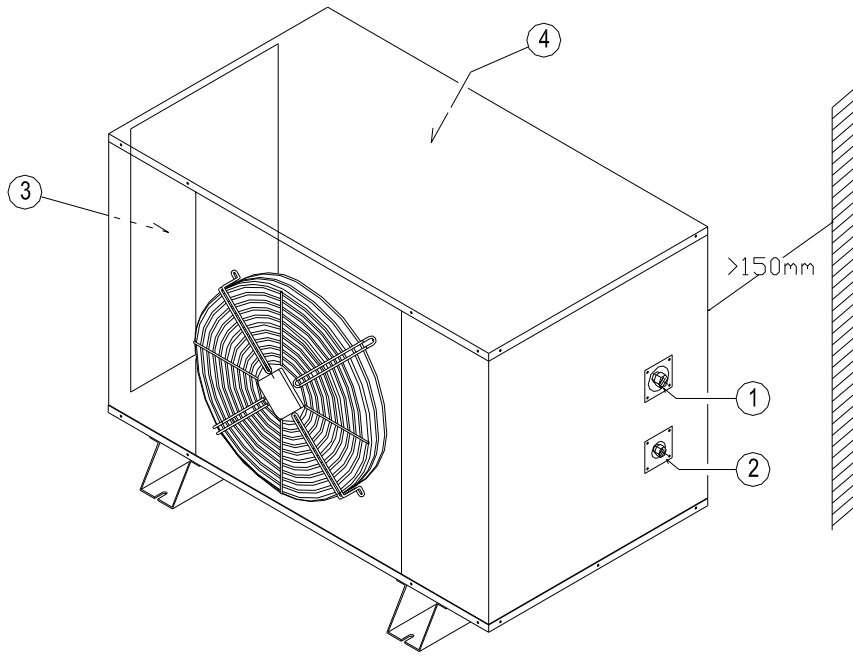

Fig. 1
CAUTION: The valves (1) and (2) in FIG.1 are shipped inside **the condensing unit's electrical panel cover (3), whilst the electrical panel for installation on the cold room is packed in the condensing unit (4)**. To gain access to the valves, remove the electrical panel cover, whilst to gain access to the electrical panel for installation on the cold room remove the ventilation panels. **Never remove the condensing unit's upper panel for this operation!**